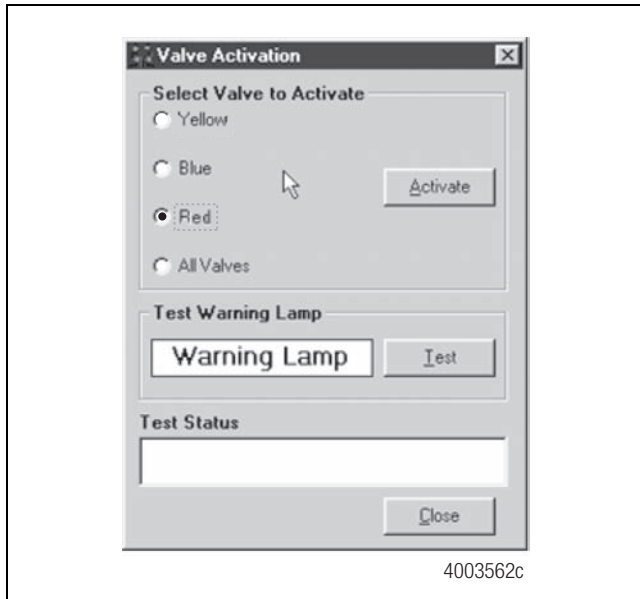

Figure 28
1. At the **Trailer Main Screen**, click on **Component Test**, then select **Valves/Lamp** to display the **Valve Activation Screen**. Figure 28.